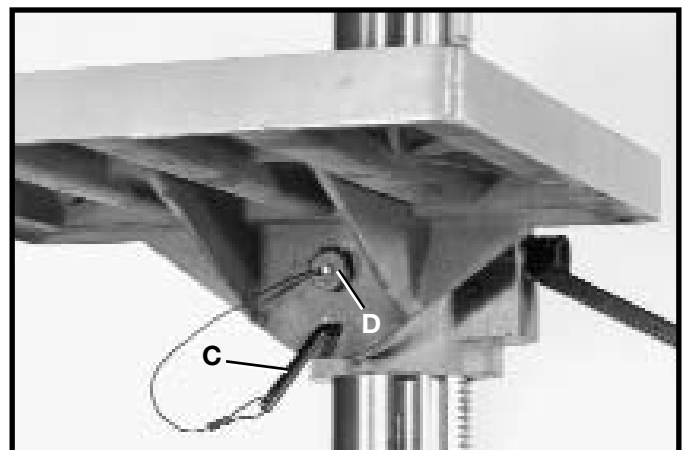

Fig. 30
2. The table can be tilted right or left by pulling out and removing table alignment pin (C) Fig. 30, and loosening table locking bolt (D). Tilt the table to the desired angle and tighten bolt (D). A tilt scale and pointer are provided on the table bracket casting to indicate the degree of tilt. When returning table to the level position, replace table alignment pin (C) Fig. 30. This will automatically position the table surface at 90 degrees to the spindle.